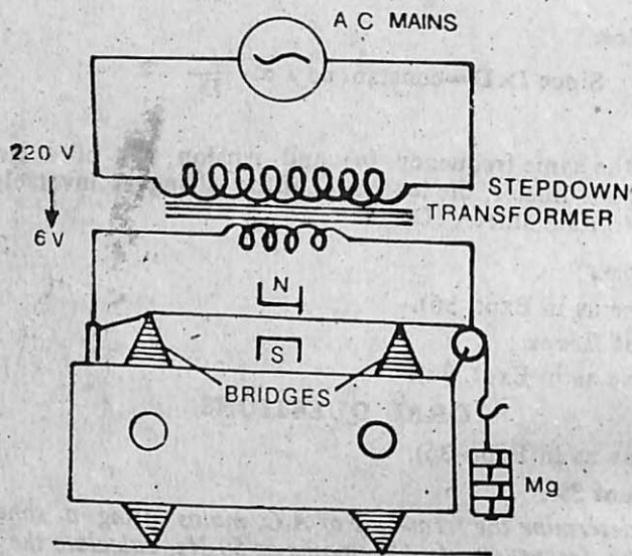

Fig. 39.2. Horizontal sonometer for frequency of A.C. mains
**Note.** Another variation of the apparatus is the *horizontal pattern sonometer* (Fig. 39.2) on which is stretched a brass wire. The alternating voltage is stepped down to say 6 volts by means of a step-down transformer and then is connected to the wire as shown. The wire passes between the pole pieces N and S of a permanent horse shoe magnet. The wire therefore experiences an alternating force due to the field of the magnet on the current in the wire, and for a particular length of the wire between the bridges it is thrown into resonance as is evidenced by a large amplitude. This condition is achieved when the frequency of the alternating current passing through the wire is equal to its mechanical frequency of vibration ; which is given by the formula